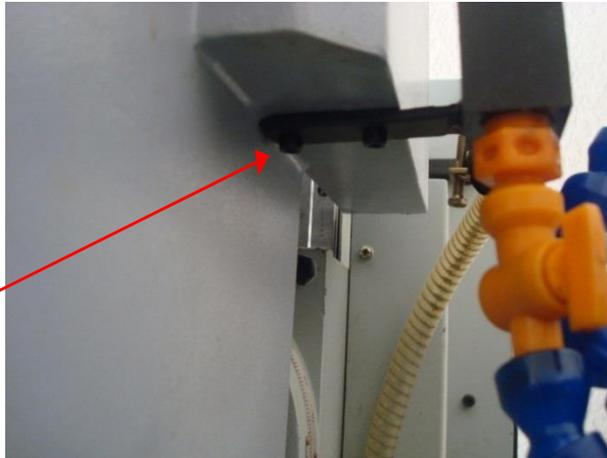

Figure 3-34
- 3) Remove the cooling hose bracket from the right side of the motor enclosure cowling. The bracket is attached via two Allen head screws (Figure 3-34).